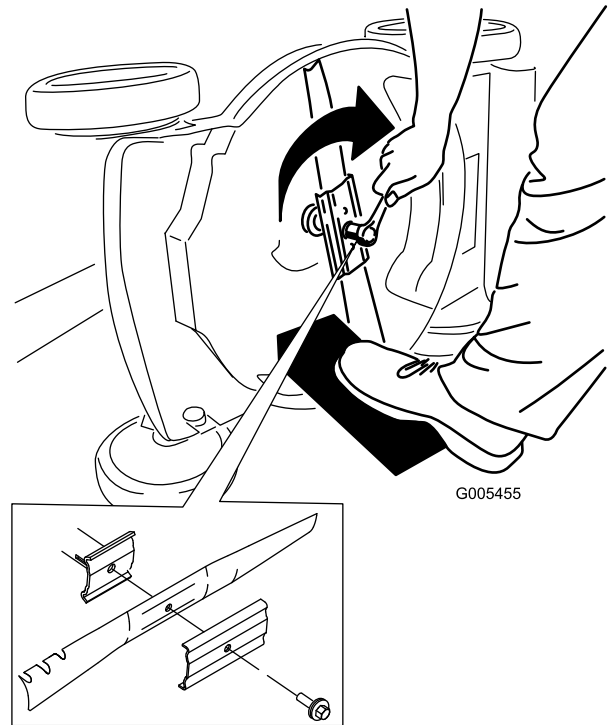

Figure 36
4. Remove the blade, saving all mounting hardware (Figure 36).
5. Install the new blade and all mounting hardware (Figure 36).